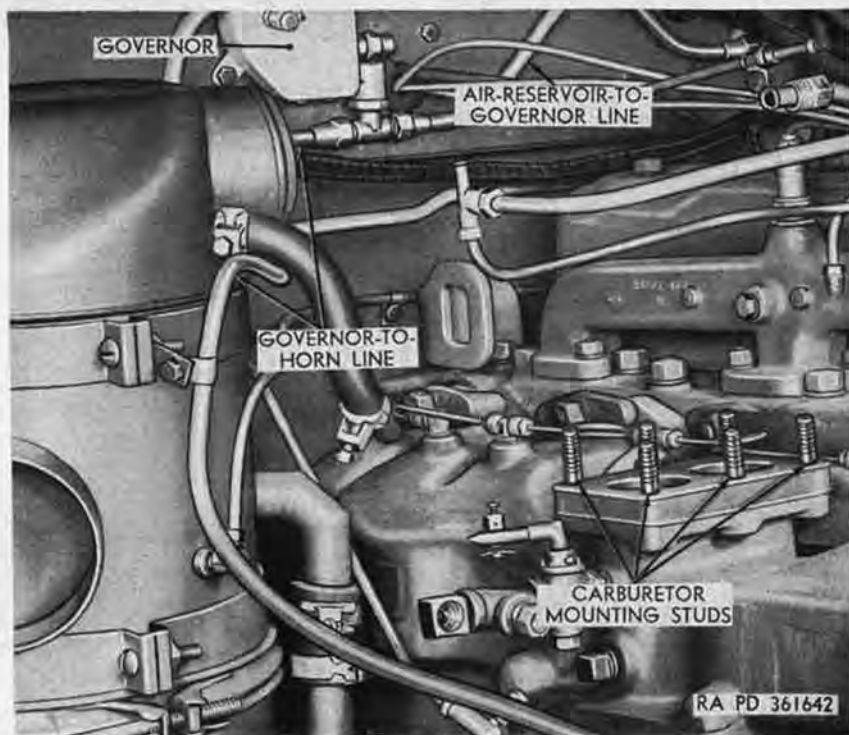

Figure 159. Upper right rear section of engine with carburetor removed.
- (1) Install new carburetor-to-manifold gasket on carburetor mounting studs (fig. 159) on top of intake manifold center section.
- (3) Insert choke control wire in hole in end of choke lever swivel but do not tighten swivel screw. Position choke control (fig. 159) under choke-lever-bracket clamp and tighten clamp screw.